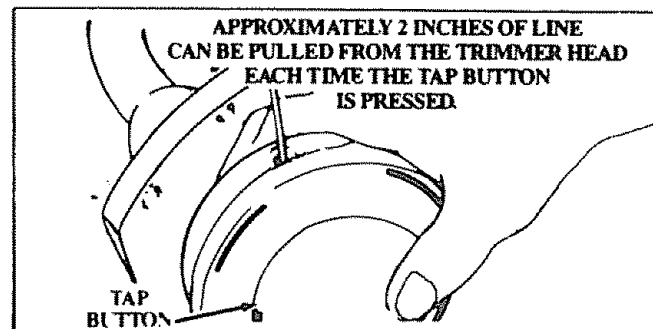

Figure 25
- Pull on the Line to change the Spool from the locked position to the operating position. Figure 25.
- Obtain correct line length by pressing Tap Button (Figure 25) and pulling on the Line again.
**NOTE:** Each time the Tap Button is pressed, approximately 2 inches of Line can be pulled from the Trimmer Head. Figure 25.